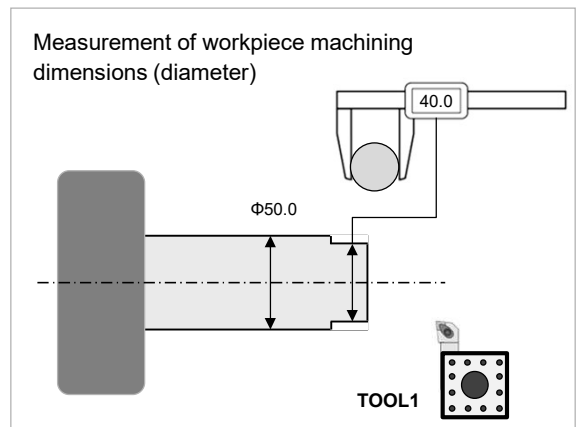

Fig.4
5. The diameter of the workpiece in the cut part is measured without moving the X axis. (Fig. 4)